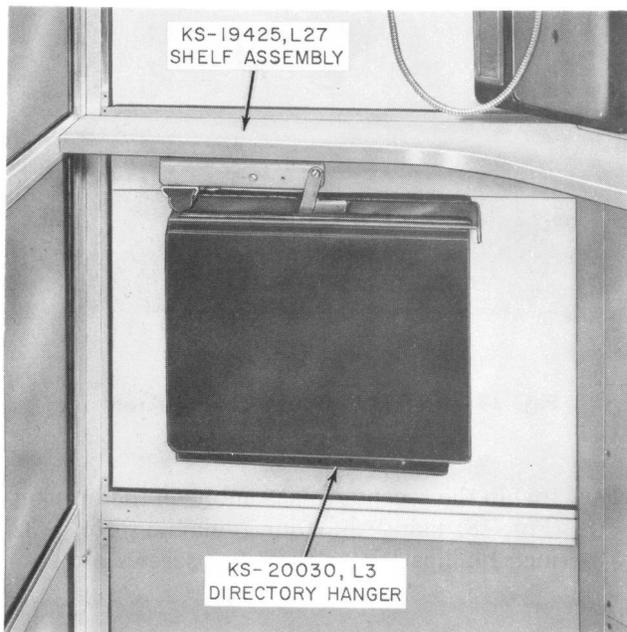

Fig. 16—KS-19425, List 27 Shelf Assembly with KS-20030, List 3 Directory Hanger
3.21 To install KS-19425, List 27 shelf assembly and KS-20030, List 3 directory hanger (Fig. 16):